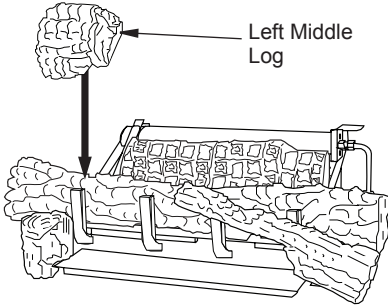

Figure 31 - Installing Left Middle Log
5. The left middle log has a groove on the bottom to sit on the chassis and has to sit on the tab on the back of the left front log as shown in Figure 31.